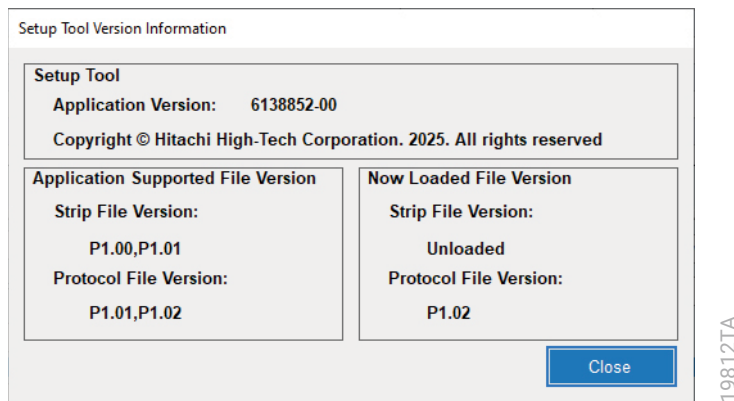

Figure 193. 'Setup Tool Version Information' window.
8. About contains version information, including the Setup Tool information, Application Supported File Version and the Now Loaded File Version (Figure 193).